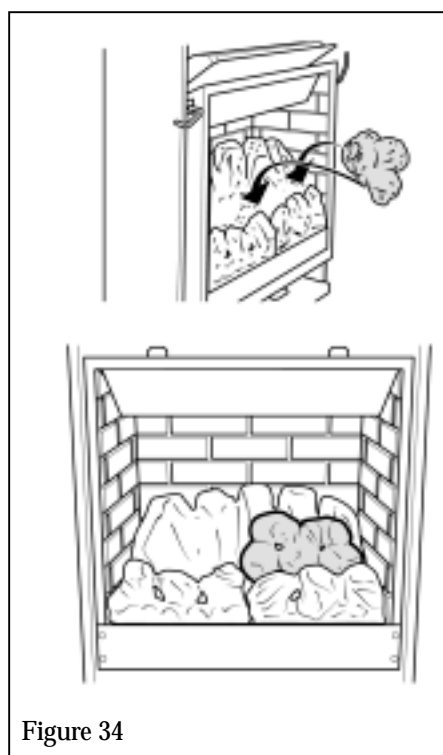

Figure 34
4. The centre right coal has letter "R" embossed underneath. Place this coal behind the front right coal. See figure 34.